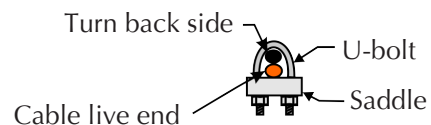

FIG.9
4. Fasten cable clamps as typical cable clamp installation (Fig.9) Cable should be relatively snug.
3. Fasten cable clamps 2 per end and as per typical cable clamp installation (Fig.9). Cable should be relatively snug.
3. Install and fasten cable clamps 2 per end as per Fig.9.